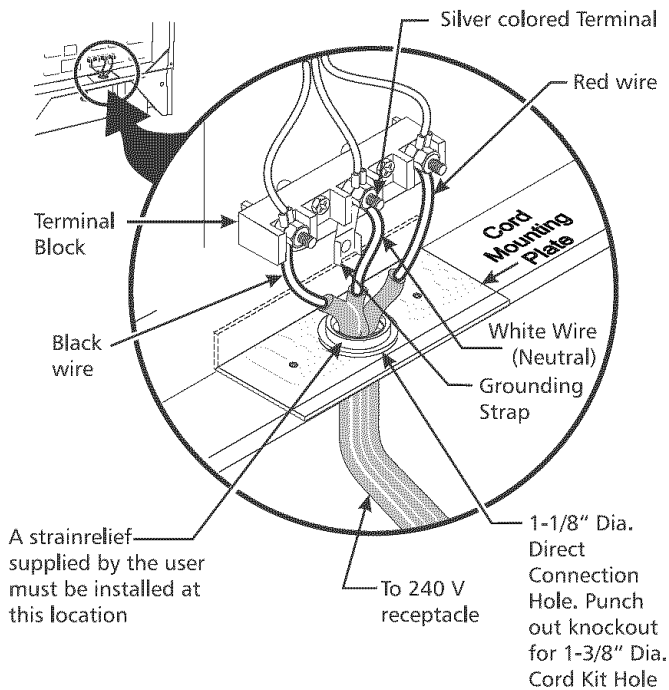

Figure 3
**NOTE:** Electric Slide-in Range is shipped from factory with 1-1/8" dia. hole as shown on figure 3. If a larger hole is required, punch out the knockout.
(The 3-conductor cord or cable must be replaced with a 4-conductor cord or cable where grounding through the neutral conductor is prohibited in new installations, mobile homes, recreational vehicles or in other areas where local codes do not permit neutral grounding) If local codes permit connection of the frame grounding conductor to the neutral wire of the copper power supply cord (see Figure 3).
4. Replace the 3 nuts on the terminal block (see figure 3).